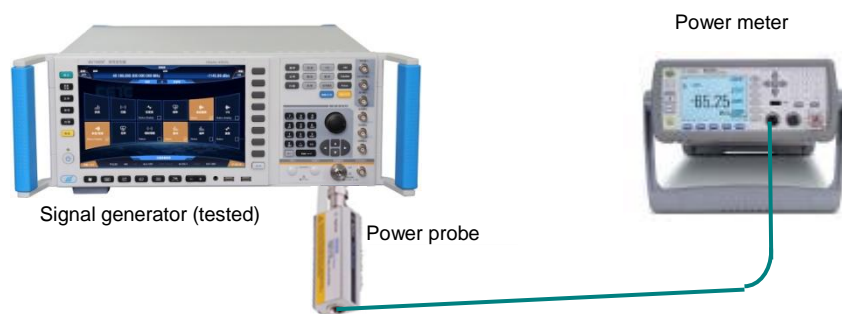

Figure 8.5 Maximum ALC Output Power Test
**Step 2. Connect the device as shown in Figure 8.5.**
**Step 2. Connect the device as shown in Figure 8.5, set the signal generator frequency to 100 kHz and the power to 0 dBm, and record the reading P1 of the power meter.**
The same as the Figures 8.5 and 8.6.
**Step 1. Connect the device as shown in Figure 8.5 and start and warm up for at least 30 minutes.**